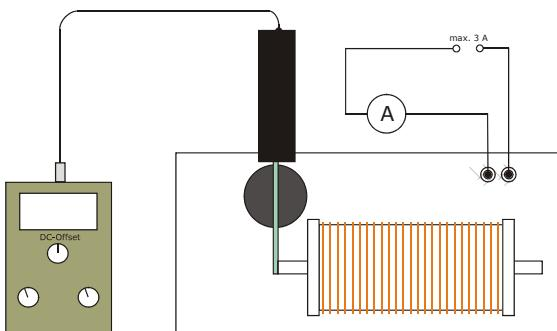

Fig. 1 Obtaining a hysteresis curve
- Connect the power supply, coil and ammeter in series (see Fig. 1).